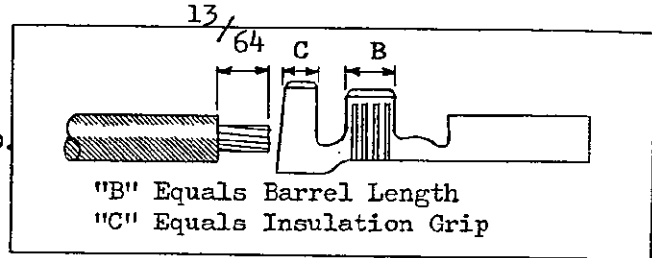

FIG. 2
2. WIRE STRIPPING - Strip wire as shown in Figure 2. Properly stripped wire will extend $1/32$ inch beyond terminal or connector barrel.